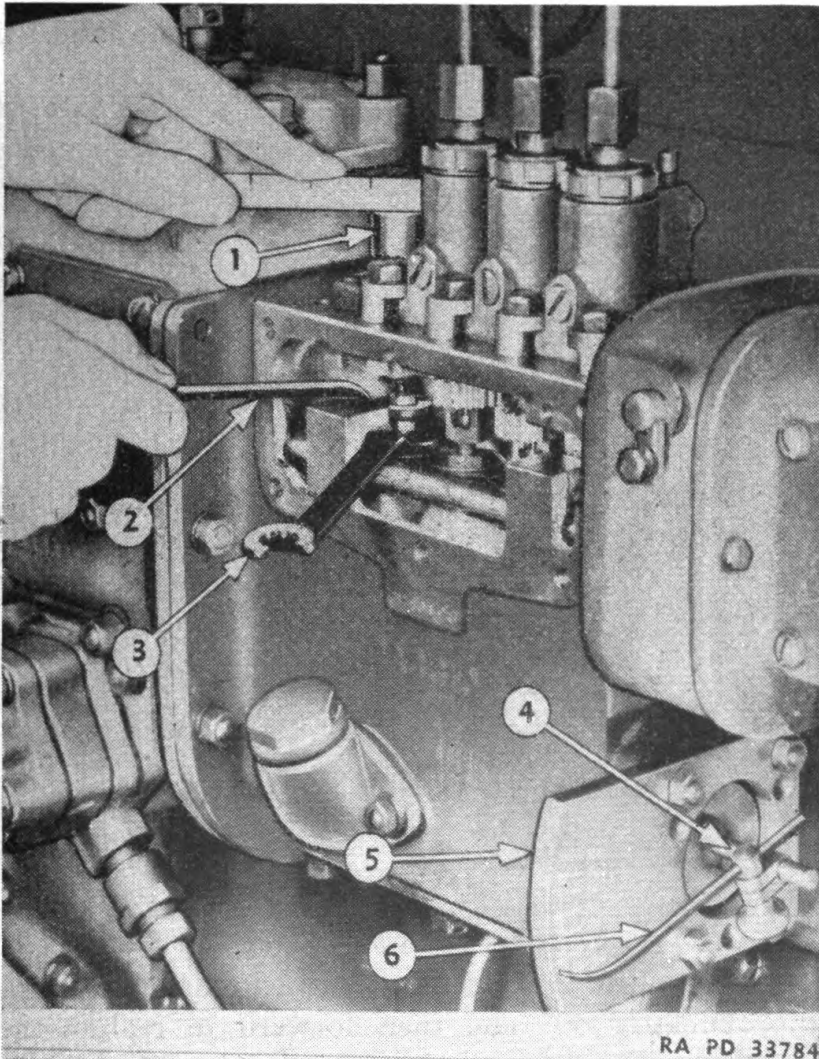

FIGURE 61.—Fuel injector pump lifter adjustment.
50. Fuel injection pump lifter adjustment.—*a.* Ordinarily, adjustment (fig. 61) is required only if the fuel injection pump housing or lifter assembly is taken apart. On machines that have seen considerable service, it may be advisable to check the adjustment at the time of engine reconditioning and to correct the adjustment to compensate for wear that may have occurred in the lifter assembly.